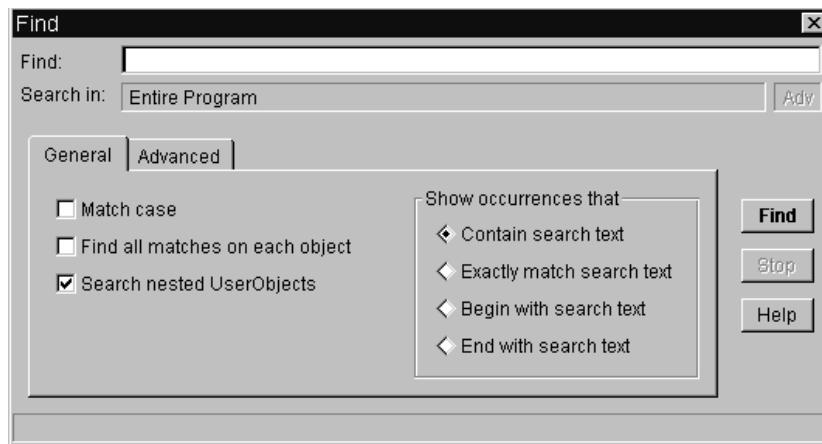

Figure 14.13. The Find dialog box
16. Select Menu Bar => Edit => Find to locate a UserFunction or UserObject in a large program. The Dialog Box is shown in Figure 14.13.